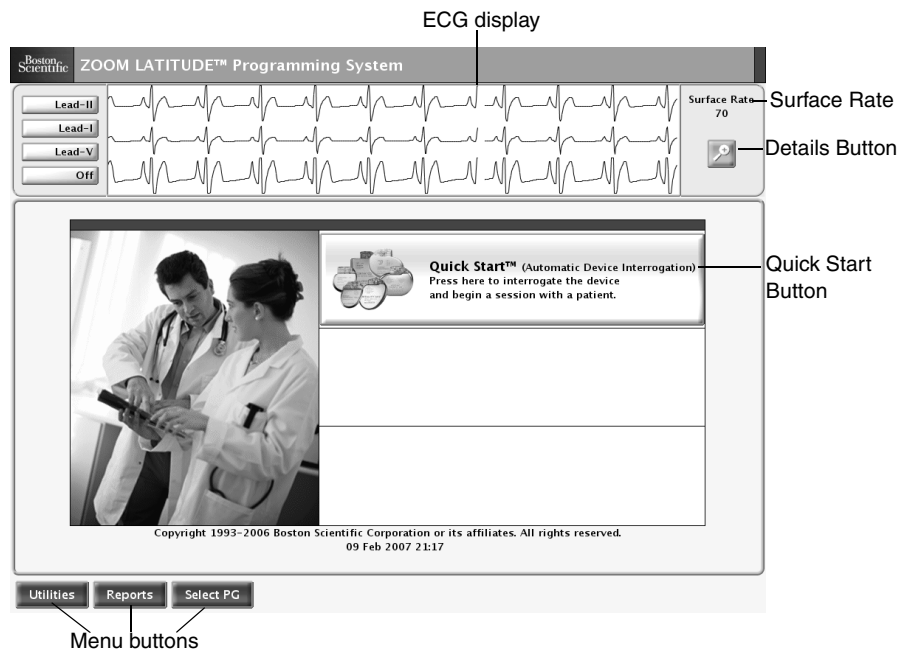

Figure 5-1. The startup screen is displayed when the PRM is powered On.
4. Wait for the Boston Scientific startup screen (Figure 5-1) to appear.